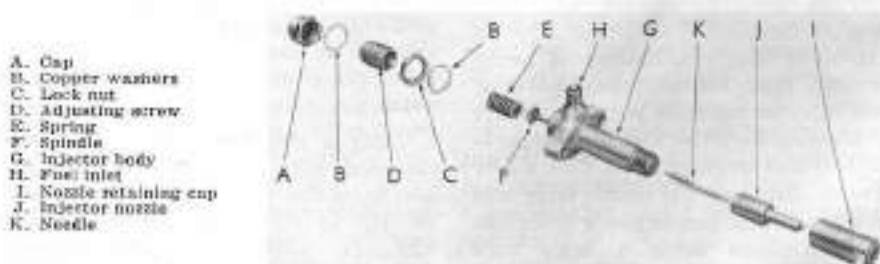

Fig. 65—Exploded view of typical fuel injector assembly. Refer to Fig. 66 for cross-sectional view.
106. OPENING PRESSURE. Close gage valve and operate tester lever several times to clear all air from the injector. Then open gage valve and while slowly operating tester lever, observe the pressure at which the injection spray occurs. This gage pressure should be 2575 psi. If the gage pressure is not as specified, remove the cap nut (A—Fig. 65), loosen the lock nut (C) and turn adjusting screw (D) in or out as required to increase or decrease opening pressure. If opening pressure cannot be adjusted to 2575 psi, overhaul nozzle as outlined
Wipe all dirt and loose carbon from the injector assembly with a clean, lint free cloth. Carefully clamp injector assembly in a soft jawed vise or injector fixture and remove the protecting cap (A—Fig. 65). Loosen the
Install the spindle (F—Fig. 65) spring (E), adjusting screw (D) and lock nut (C) using new copper washer (B). Connect the injector to a nozzle tester and adjust opening pressure to